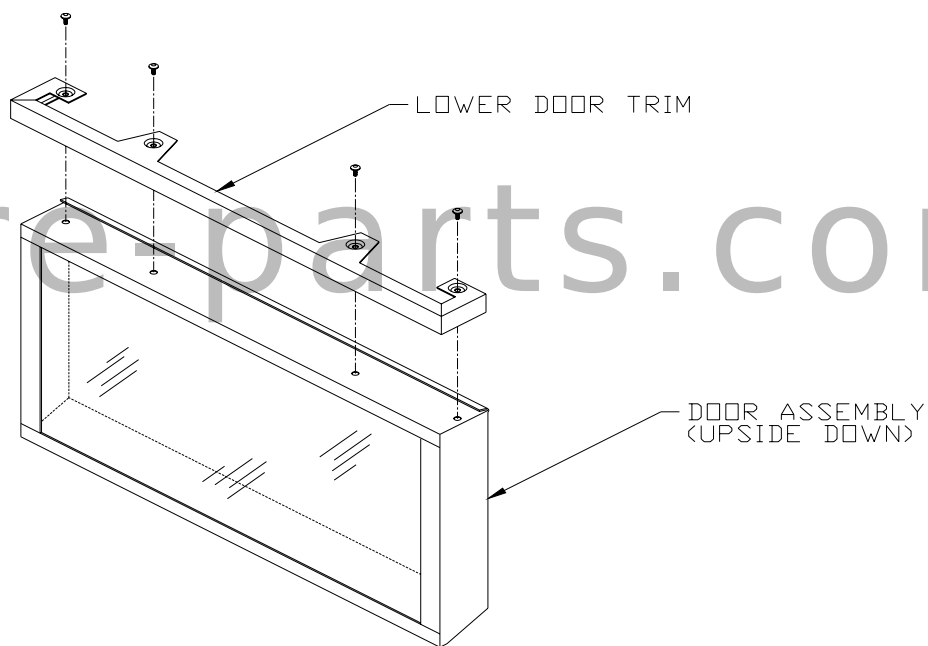

Figure 21
4. Secure the lower door trim with the four screws that were previously removed (See Figure 21).